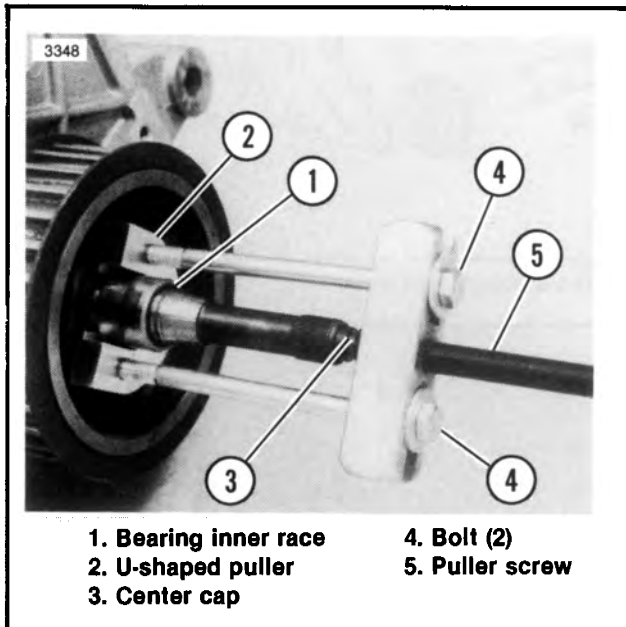

Figure 7-12. Removing Bearing Race
2. Remove exhaust piping. It is necessary to remove the primary chaincase as described in section 6, and bearing inner race from the transmission mainshaft prior to disassembly. See Figure 7-12. The bearing inner race is removed by using BEARING RACE PULLER & INSTALLATION TOOL, Part No. HD-34902.